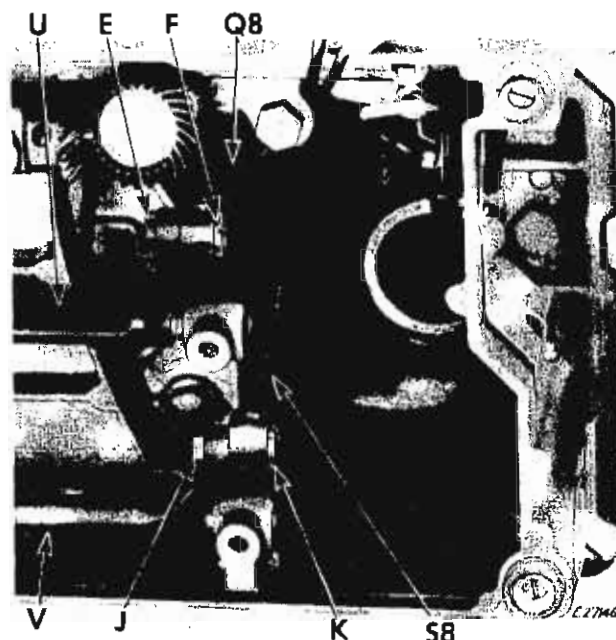

Fig. 318. Connections beneath Machine Bed
4. Remove nut **E** and eccentric stud **F**, Fig. 318, disengaging connecting rod **Q8** from feed lifting rock shaft **U**, Fig. 318.
1. Insert connecting rod **Q8**, Fig. 318 into upright arm through bottom of machine, so that it fits around bottom half of gear hub on eccentric **Y2**,
3. Replace stud **F** and nut **E**, Fig. 318, engaging connecting rod **Q8** to shaft **U**.
3. Remove nut **J** and stud **K**, Fig. 318, disengaging feed forked connection **S8** from feed rock shaft **V**, Fig. 318.
2. Engage feed forked connection **S8** with feed rock shaft **V**, Fig. 318 and fasten with stud **K** and nut **J**.